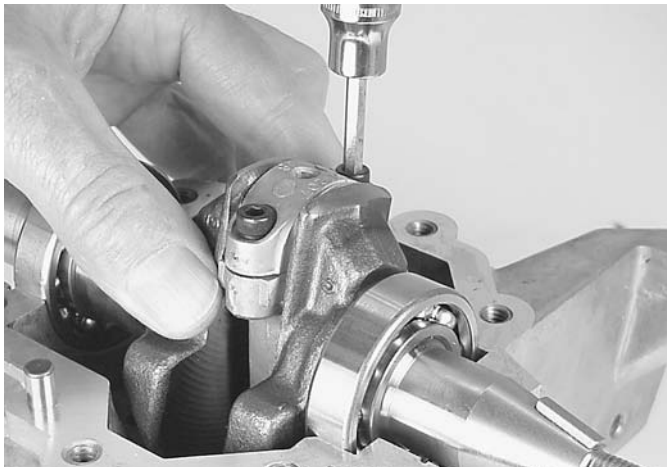

Fig. 68
- Torque rod screws to **70 lb-in. (8.0 Nm)** (Figure 68).